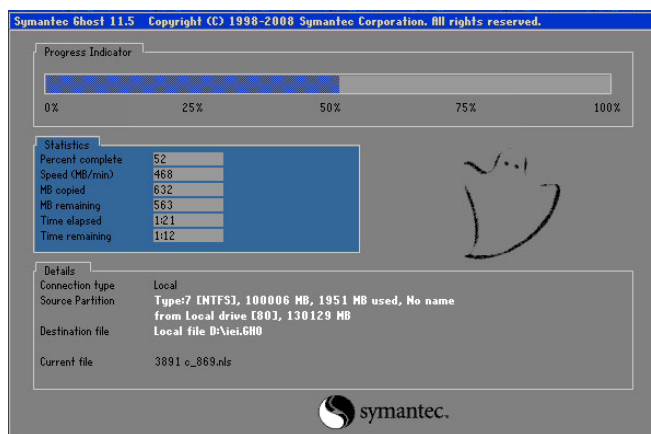

Figure A-16: Image Creation Complete
Step 10: The Symantec Ghost starts to create the factory default image (**Figure A-16**).